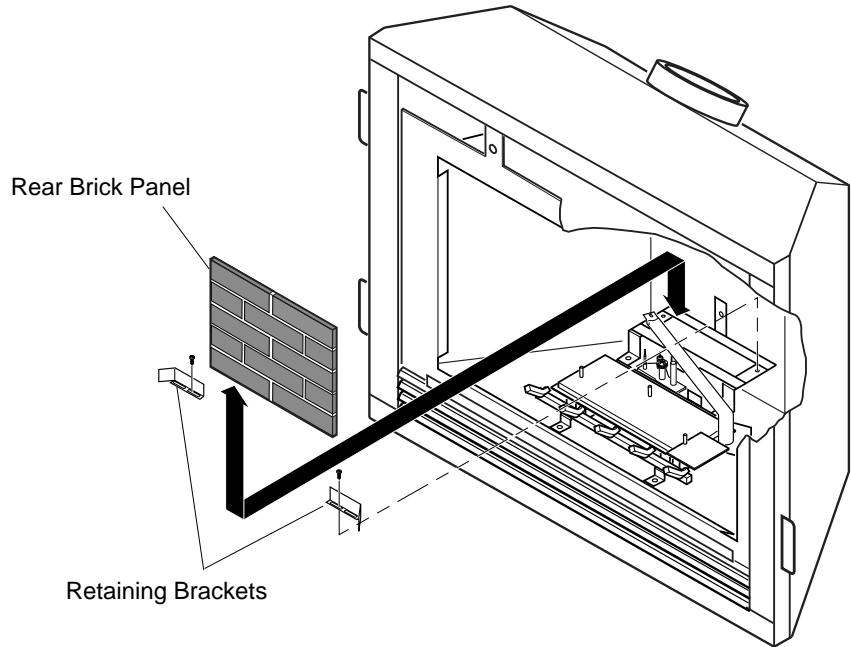

Figure 45 - Installing Rear Brick Panel and Retainer Brackets
3. Install rear brick panel first. Rest bottom edge of panel on back edge of grate (see Figure 45, page 23).